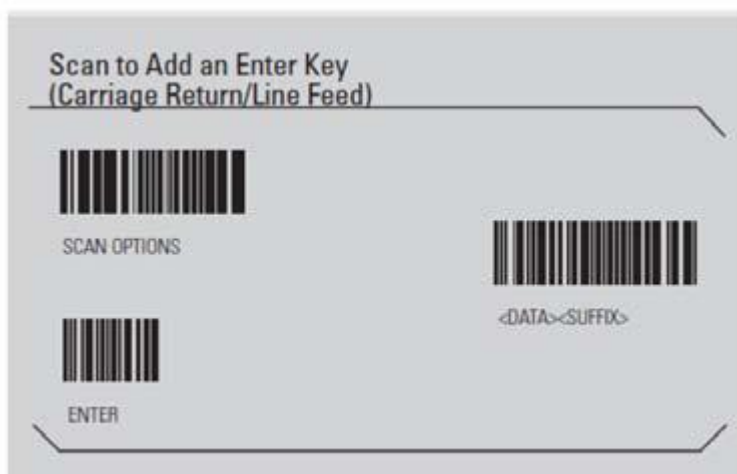

Figure 3: Configuration of the bar code scanner mode
4. Do scans of the three bar codes in Figure 3 in this sequence: